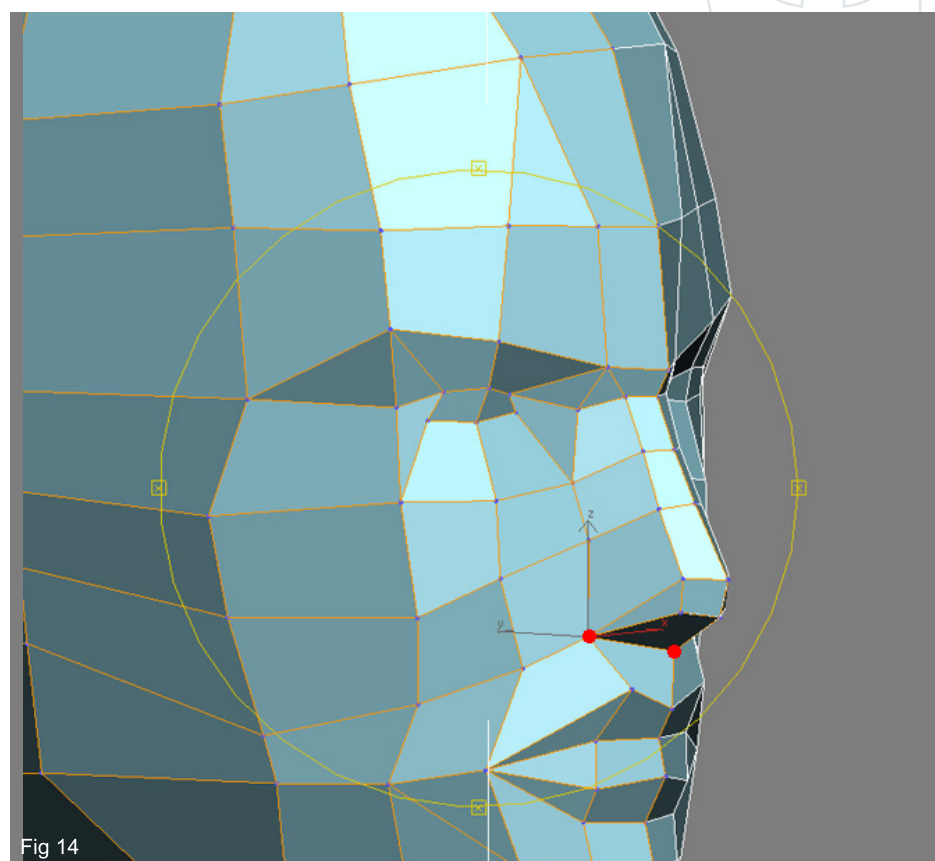

Fig 14
14. On the nose weld the middle vert to the one below and the one on the left to the adjacent corner one (Fig14).